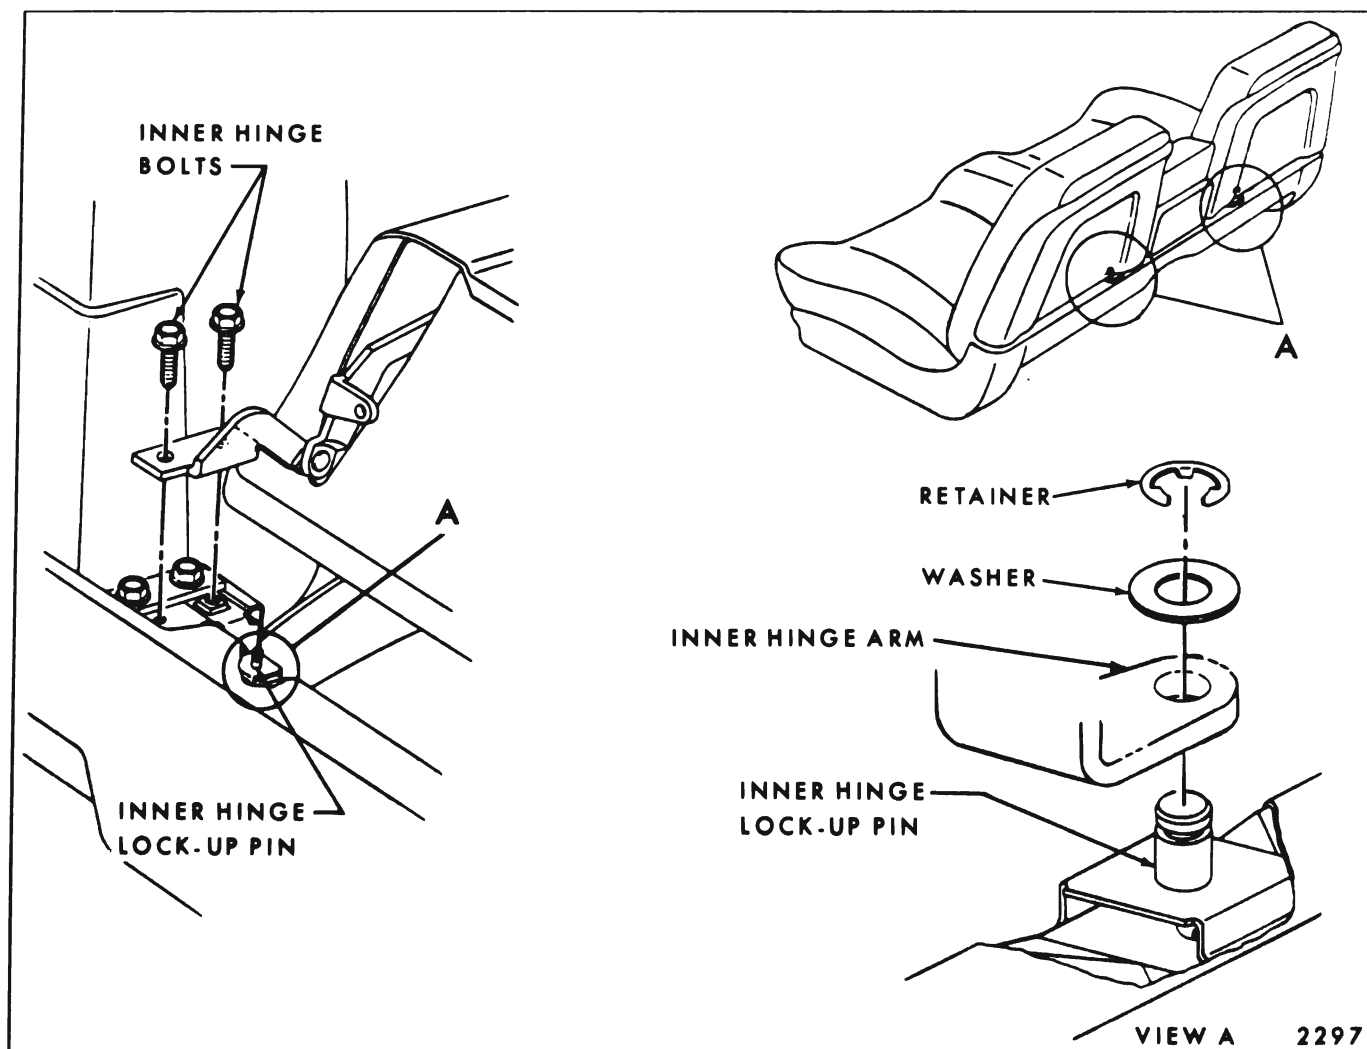

Fig. 15-32 — Strato Full Width Seat Back Attachment - Chevrolet 16639 Style
3. Using a suitable hooked end tool between seat back and seat cushion, at location "A", remove retaining ring locking seat back at inner hinge (see View "A", Fig. 15-32).
5. Carefully tilt seat back forward. Remove inner hinge bolt cover plate. Remove inner hinge bolts (Fig. 15-32) and carefully remove seat back from seat assembly.